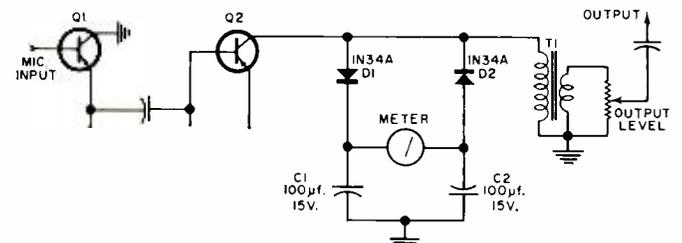

Fig. 9. Single-ended transistor clipper-compressor circuit.
**Transistor type.** When transistors are substituted for vacuum tubes in the standard push-pull compressor, circuit function is identical. However, a single-ended transistor compressor is available (see Fig. 9), which clips and compresses at the same time. When power is applied, C1 and C2 charge through D1 and D2, respectively. At this point they furnish bias to the diodes. When speech signals exceed this bias, the diodes conduct and their impedance is lowered by current passing through them. Since the diodes are across T1, the transformer primary impedance drops, attenuating the signal. But the waveform is rounded off and compressed more than clipped or chopped.